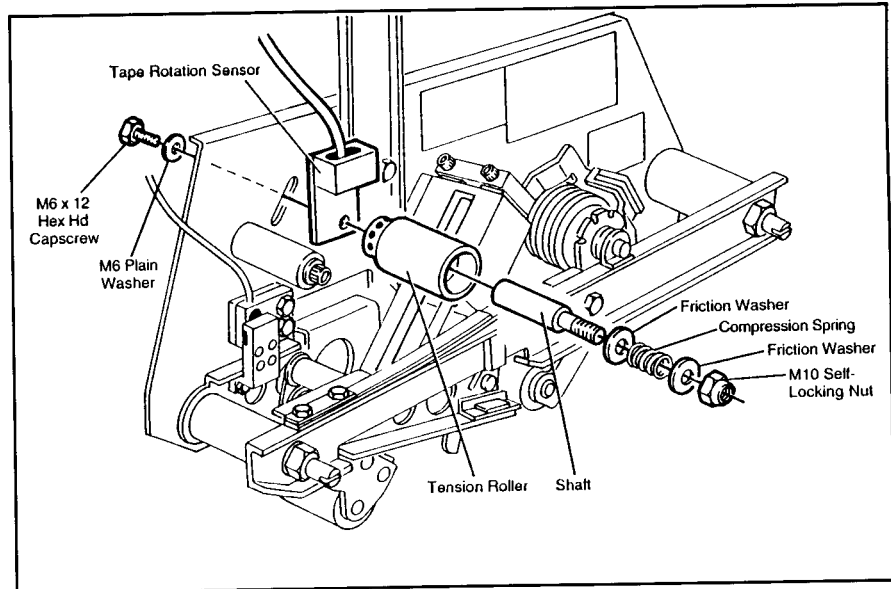

Figure 18
- Install new parts from kit. Shaft, tension roller, washers, compression spring and hex nut and fasten to taping head side plate with M6 x 12 hex head screw and M6 plain washer. See Figure 18. Install tape rotation sensor between shaft and side plate with sensor cable pointed in same direction as box presence sensor.